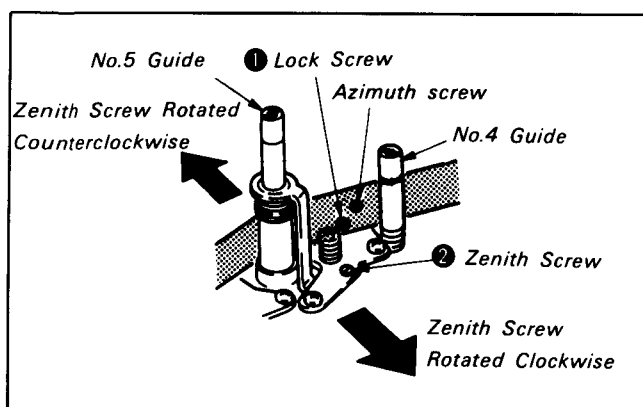

Fig. 8-78.
- 1) Play back the alignment tape (WR5-1C) for tracking and rotate No.4 guide counterclockwise and No.5 guide clockwise in order to make the tape running on the exit side free. (Fig. 8-78)
- i) Rotate the lock screw ① counterclockwise to loosen.
- ii) Slowly rotate the zenith screw ② 45° at a time and wait until the RF waveform varies.
- iii) Rotate the lock screw ① clockwise to tighten. (Fig. 8-78)